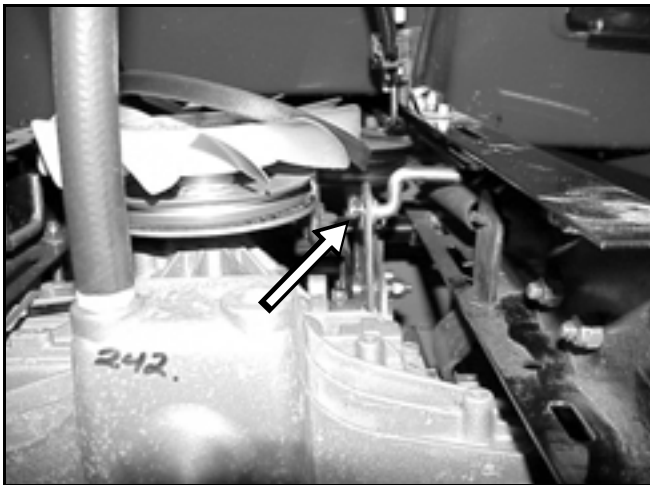

Figure 78 MVC-003B
8. Remove the hairpin and washer on the speed control rod (Figure 78).